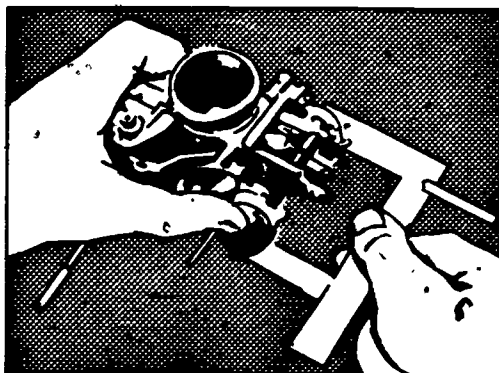

FIGURE 2
4. Check float height and adjust if necessary, following manufacturer's instructions (Figure 2)